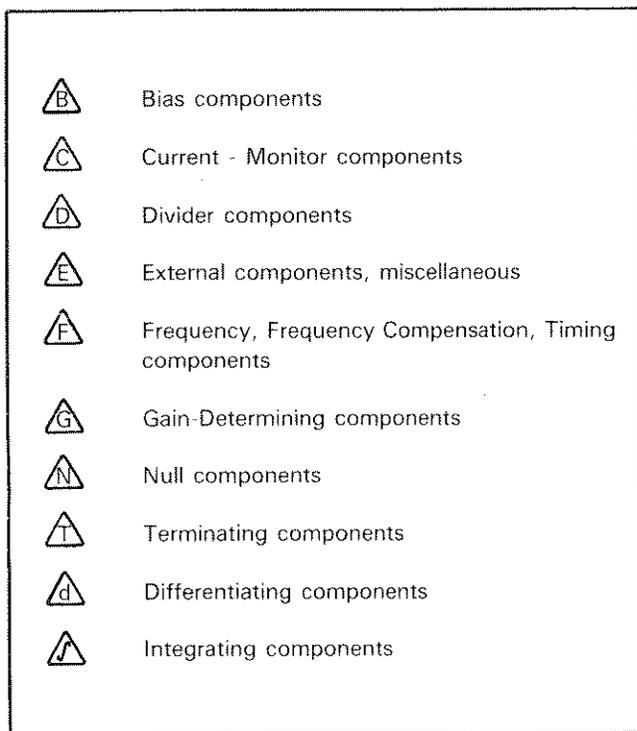

Figure B-10. Connections to Discrete Components
**Connections to Discrete Components.** Discrete components that are a functional part of the logic device connect to pins marked as shown in Figure B-10.